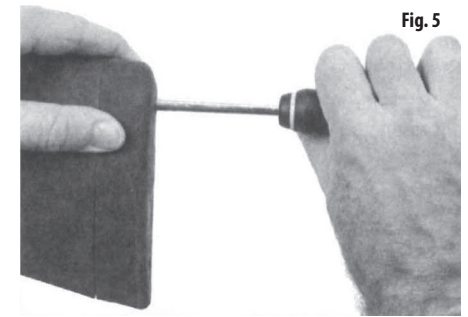

Fig. 5
3. Install rubber recoil pad. Line up the screws in the butt pad with the small holes in the rear of the stock. Tighten snugly with medium Phillips screwdriver (Fig. 5).